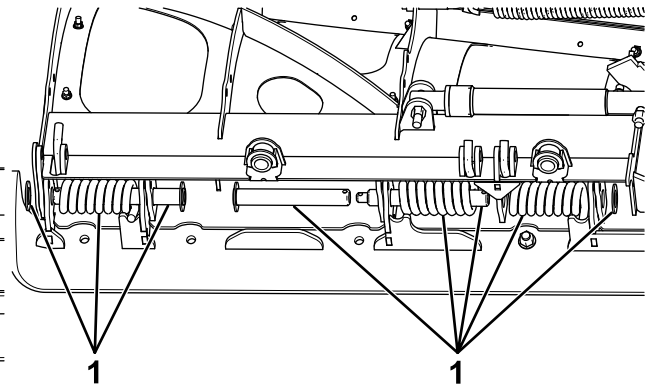

Figure 50
5. Remove the spring pins and torsion springs (Figure 50).